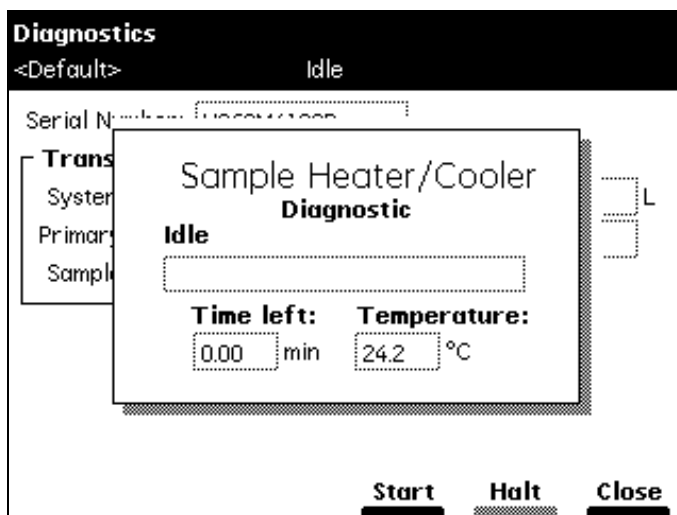

Figure 8-12 Sample Heater/Cooler Test Screen
1. Select **Sample heater/cooler** in the Other Diagnostics drop-down list, then press **OK**. The Sample Heater/Cooler Diagnostic screen appears (Figure 8-12).